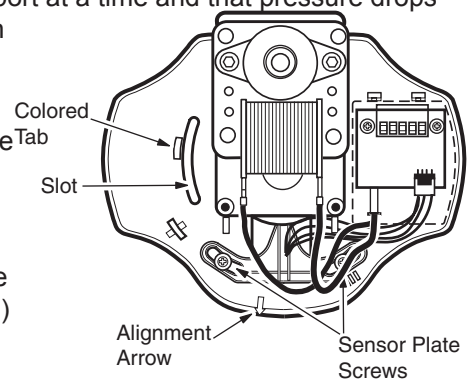

Figure 14. Motor Alignment
- First, verify that motor assembly is properly aligned and secure. Alignment arrows should line up and the window on the sensor wheel (seen through slot) should line up with the colored tab on the motor plate (see Figure 14).